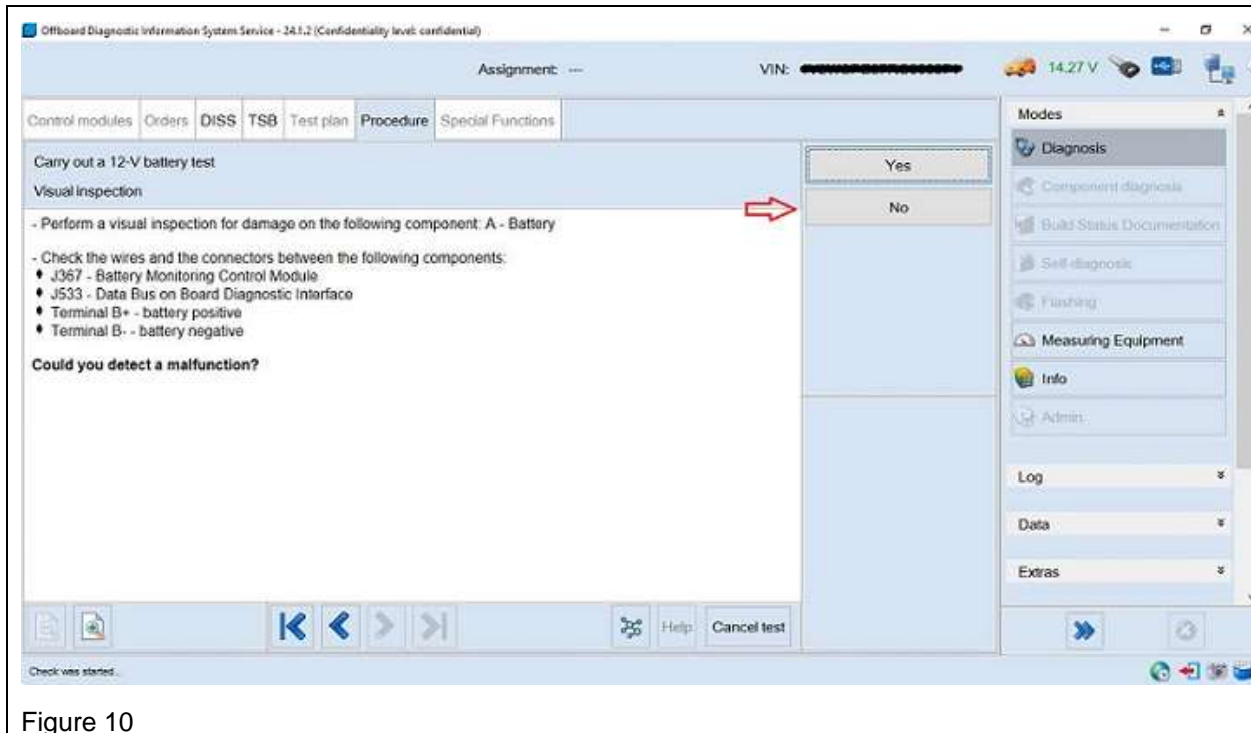

Figure 10
10. Perform a visual inspection for damage on the listed components. If did not detect a malfunction select No (Figure10).